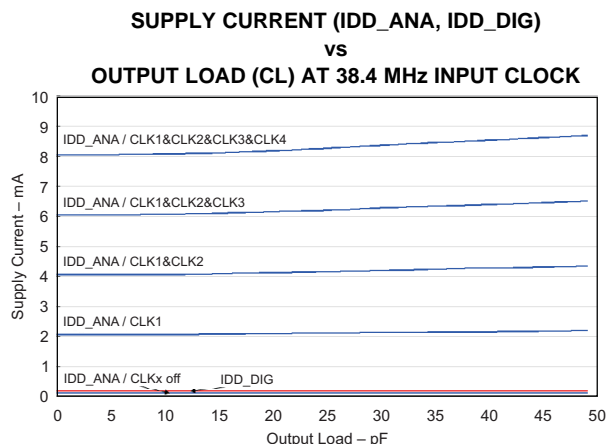

Figure 8.
(1) The total current consumption when no output is active is calculated by $I_{DD_ANA}(\text{off}) + I_{DD_DIG}$.(2) For $C_I = 30\text{ pF}$, the typical current for one output is 2.2 mA (see Figure 8).(3) The I²C standard specifies a maximum C_I of 10 pF.